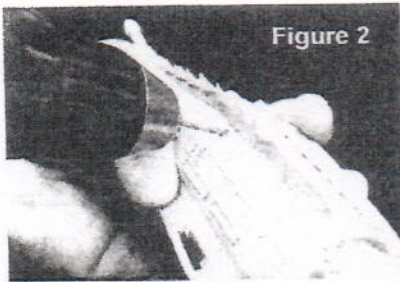
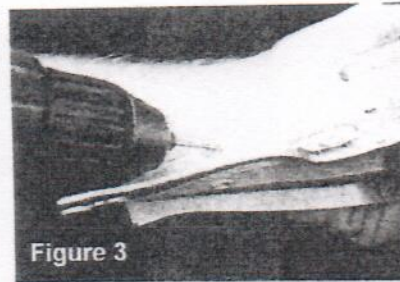

Figure 2
Figure 3
4. Install a .078" drill bit (#47) into a drill and carefully bore into the anchor cups about 1/2" in depth. Use the angle shown above in figure 2. Use a .089" drill bit (#43) for the rear prop guards and rear prop shaft (1/8 " deep) as shown in figures 3 and 4.